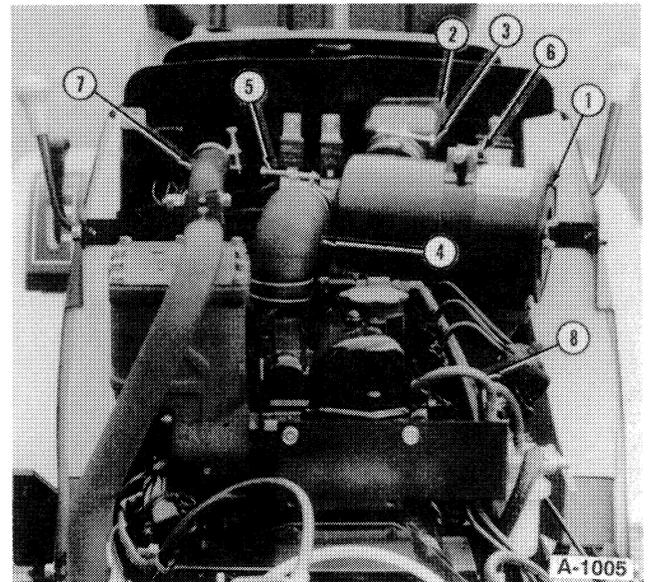

FIGURE 1-8
Reference Figure 1-8.
8. Remove the upper radiator hose, 7, Figure 1-8.
9. Remove the injector fuel leak-off tube, 8, Figure 1-8.